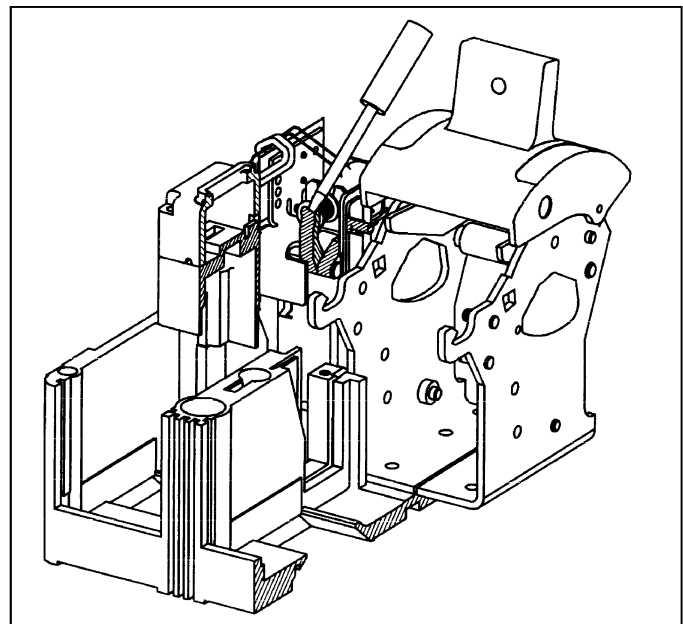

Figure 2-5 Testing Operation of Solenoid Plunger
- Position a small flat-blade screwdriver (Figure 2-5) under the head of the solenoid plunger. Pry the plunger free from the seated position and check the circuit breaker trips.